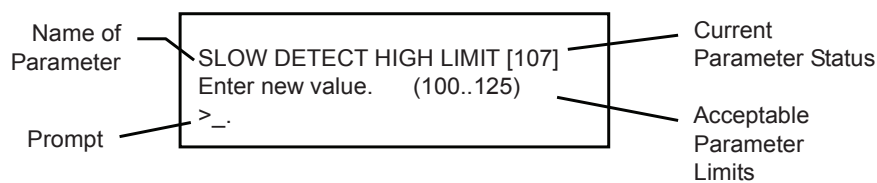

Figure 36
3. The Parameter Change Screen appears (Figure 36). Type the new value that is within the range of acceptable parameter limits and press **Enter**.